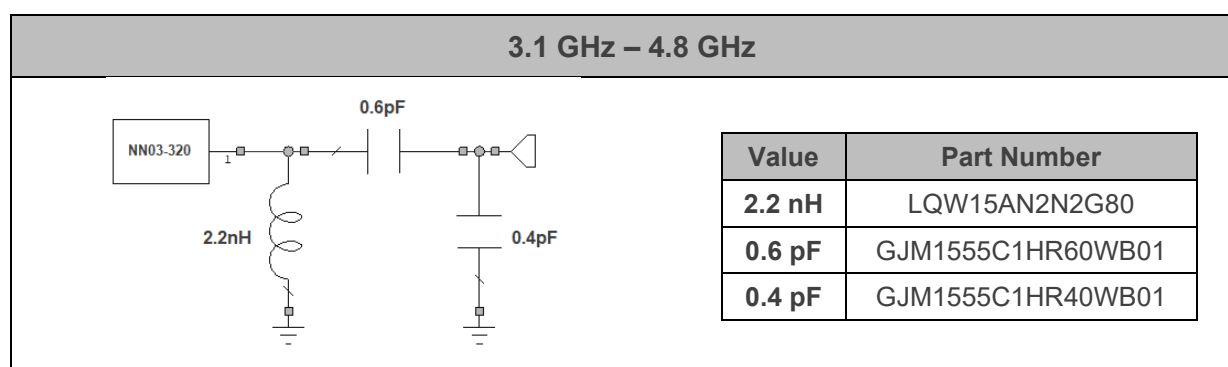
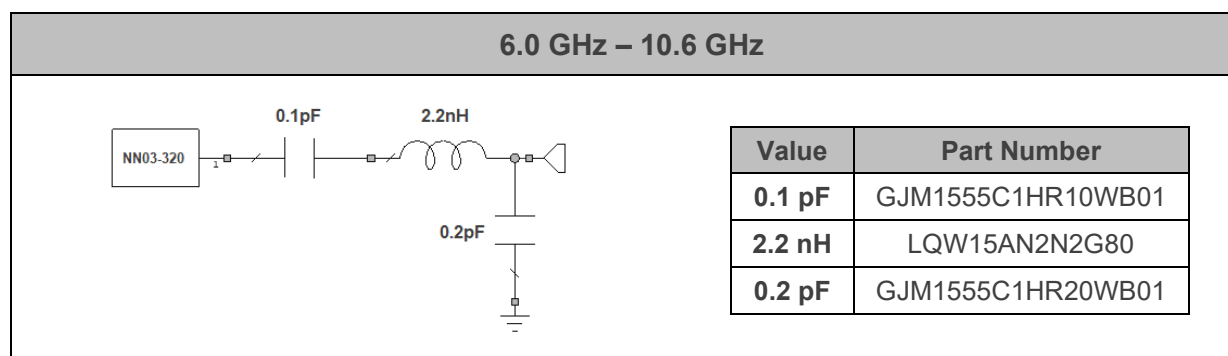

Figure 12 – Matching network implemented in the Evaluation Board (**Figure 11**) for covering the low frequency region from 3.1GHz to 4.8GHz.
Figure 13 – Matching network implemented in the Evaluation Board (**Figure 11**) covering the high frequency region from 6.0GHz to 10.6GHz.
The antenna performance is always conditioned by its operating environment. Different devices with different printed circuit board sizes, components nearby the antenna, LCD's, batteries, covers, connectors, etc. may need a different matching network. Accordingly, it is highly recommended placing pads compatible with 0402 and 0603 SMD components for a matching network as close as possible to the feeding point of the antenna element in the ground plane area, not in the clearance area. This provides a degree of freedom to tune the DUO mXTEND[™] antenna booster once the design is finished and considering all elements of the system (batteries, displays, covers, etc.). To ensure optimal results, the use of high-quality factor (Q) and tight tolerance components is highly recommended (e.g., Murata components (Figure 12).
Figure 14 – VSWR and total efficiency for the UWB LFR (3.1GHz – 4.8GHz) and for the UWB HFR (6.0GHz – 10.6GHz) from the Evaluation Board (**Figure 11**) with the matching networks gathered in Figure 12 (LFR UWB) and Figure 13 (HFR UWB), respectively. Simulated results obtained with CST.
Table 7 – Antenna gain and total efficiency from the Evaluation Board (Figure 11) for 3.1GHz – 4.8GHz with the matching network of Figure 12. Simulated results obtained with CST.